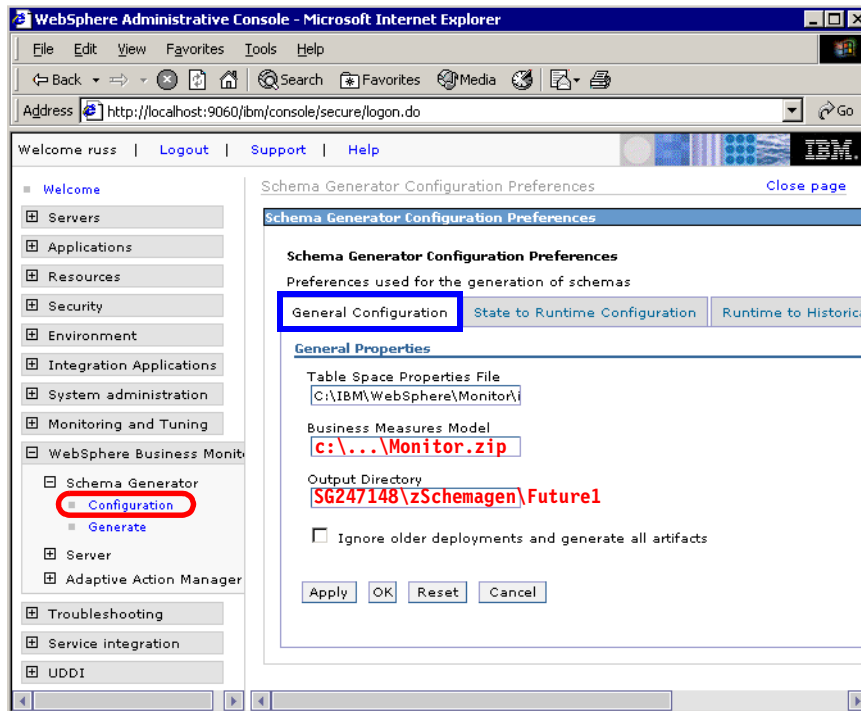

Figure 12-7 Business measures import configuration: General
- ▶ Navigate to *WebSphere Business Monitor* → *Schema Generator* → *Configuration* (Figure 12-7). Select the *General Configuration* tab.